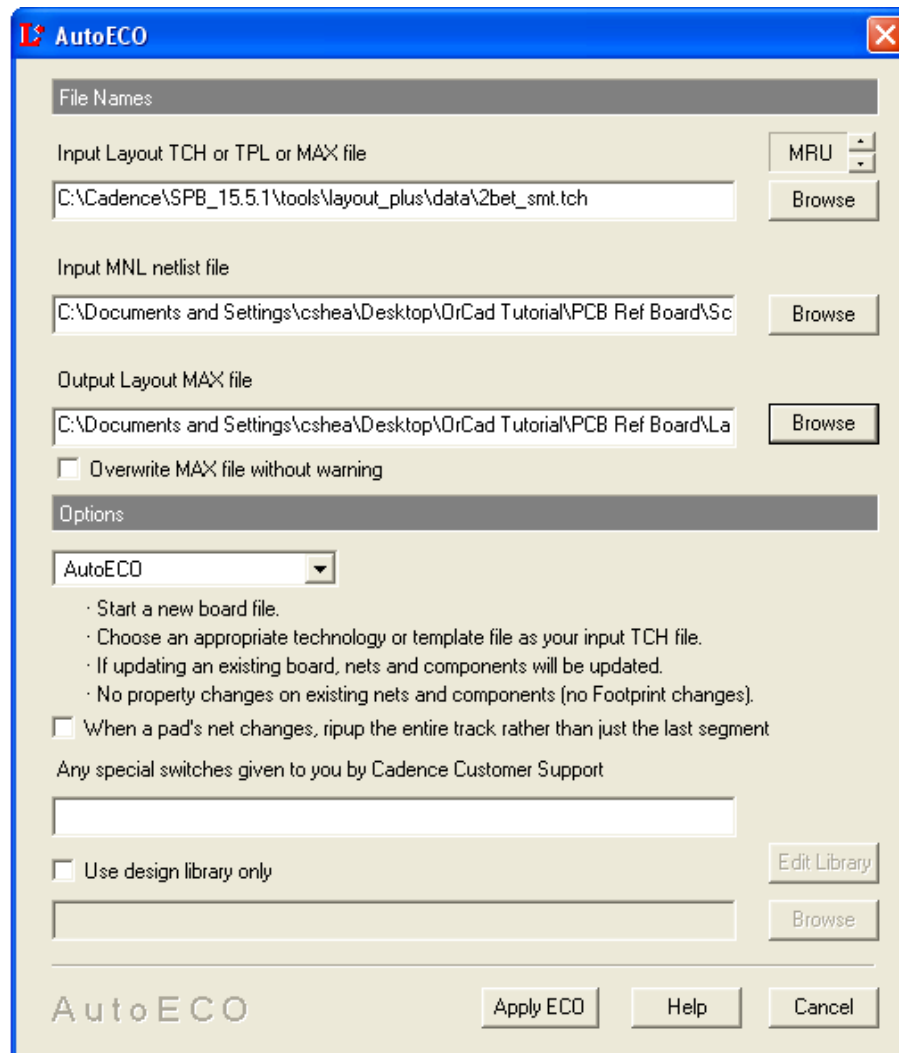

Figure 5.2: Creating the Board File with AutoECO
7. Click → **File | New**, to open the AutoECO (*See Figure 5.2*)